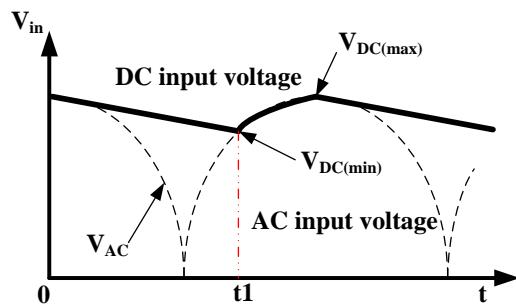

Figure 6: Input Voltage Waveform
The bulk capacitors of the rectifier bridge filter the rectified AC input, which supplies the DC input voltage for the converter. Figure 6 shows the typical DC bus voltage waveform of a full-bridge rectifier.
From the waveform in Figure 6, the AC input voltage ( $V_{\text{AC}}$ ) and the DC input voltage ( $V_{\text{DC}}$ ) are calculated using Equation (4):